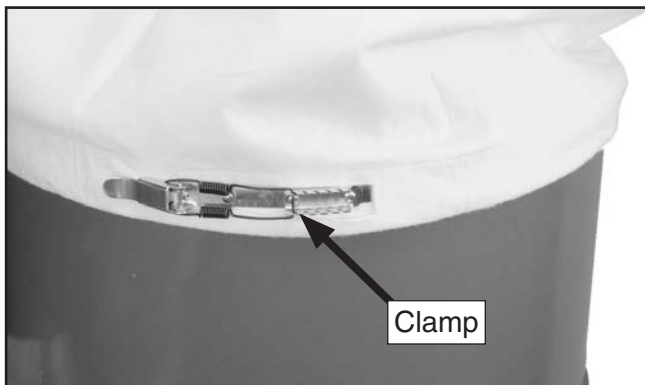

Figure 25. Upper collection bag secured.
- b. Tighten the upper bags to the collector using the strap and clamp kits shown in **Figure 25**.